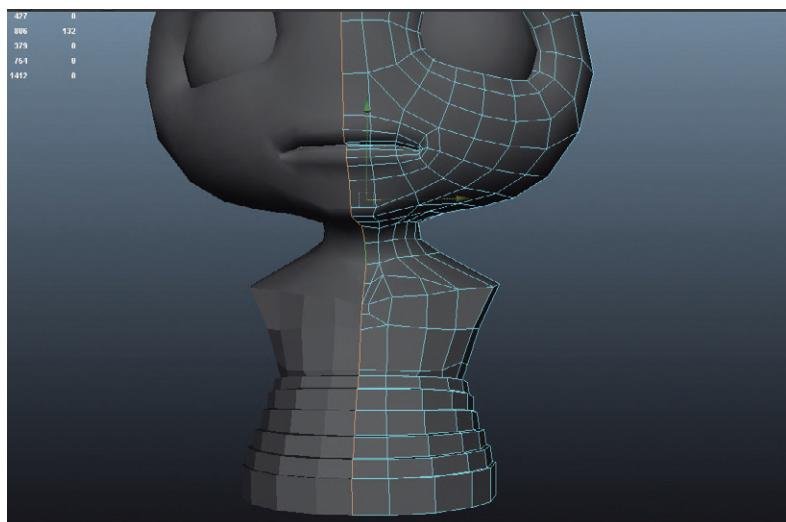

FIG 4.55 Extruding down to include the belt – and then making sure that the axis of symmetry is clean (snap to grid with the Move Tool).
Step 73: Continue extruding down to include the belt and clean the axis of symmetry (Fig. 4.55).